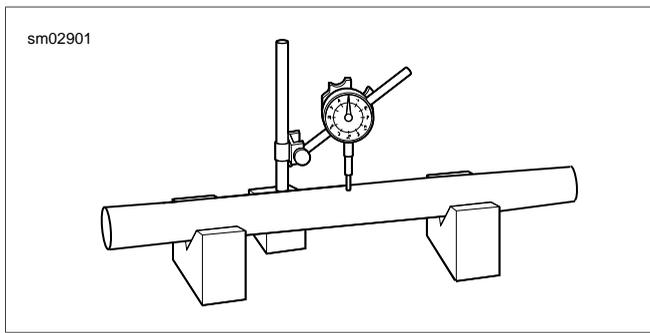

Figure 2-59. Measure Fork Tube Runout
5. Check the fork tube and slider for scoring, scratches and excessive or abnormal wear. Replace parts as necessary. Set the fork tube on V-blocks and measure the runout using a dial indicator gauge. Replace fork if runout exceeds 0.008 in. (0.2 mm). See Figure 2-59.